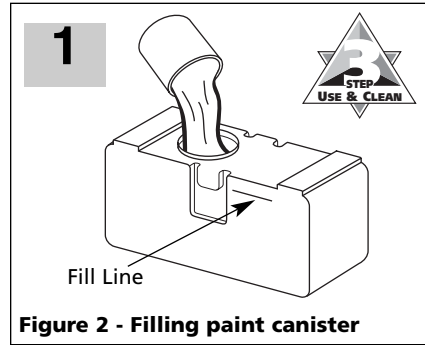

Figure 2 - Filling paint canister
2. Fill canister with paint so that paint is slightly below fill line (see Figure 2). This will allow extra room for paint thinning, if necessary.